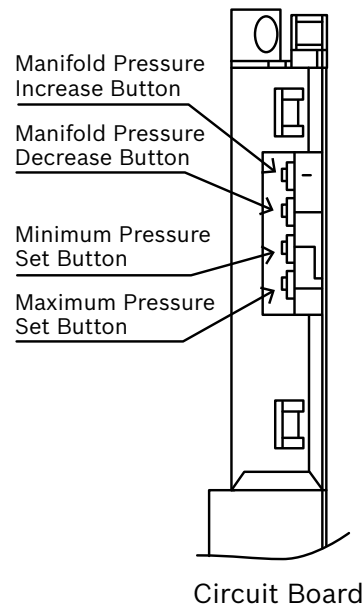

Figure 8
- Operate appliance at full power by creating a demand on the AlphaStat and forcing the burner to high by pressing Max Pressure Set Button. (Refer to Fig 8.)